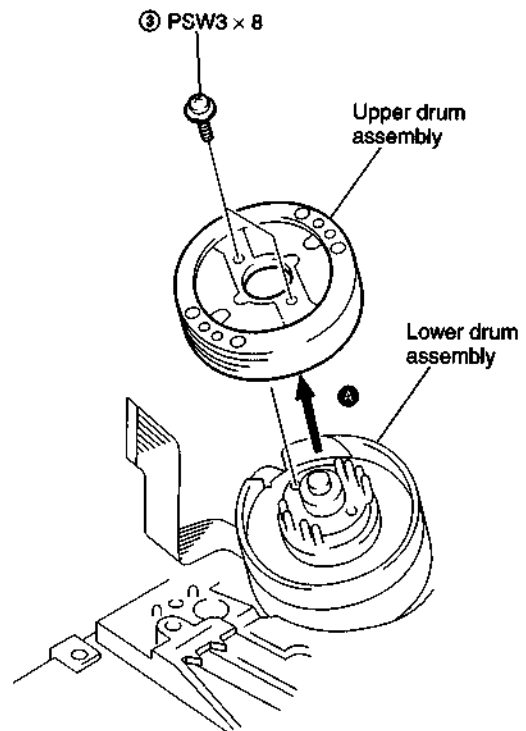

Fig. 2
- 3) Remove two screw ③ (PSW3 × 8) and take out the rotary upper drum in the arrow direction ④. (See Fig. 2.)
- 2) Mount the rotary upper drum board so that the screw holes of both upper and lower drums match. (See Fig. 2.)
- 4) Tighten two screws ③ (PSW3 × 8). (See Fig. 2.)